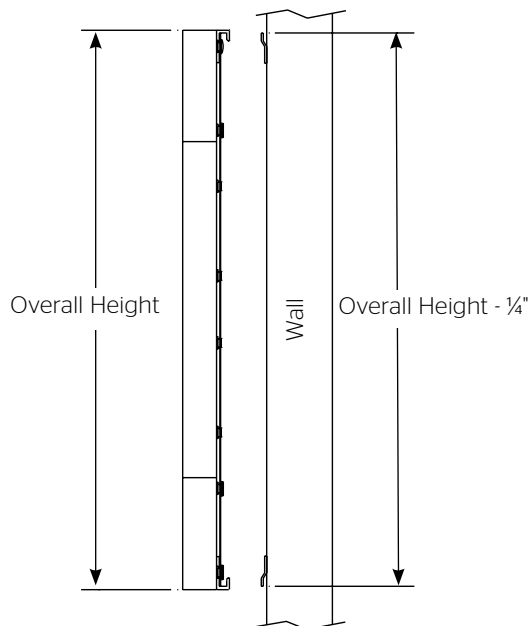

Figure 6
3. To install the lower wall bracket, you must measure the overall height of the screen frame and subtract 1/4". This is the dimension from the top of the upper wall bracket to the bottom of the lower wall bracket. See Figure 6.